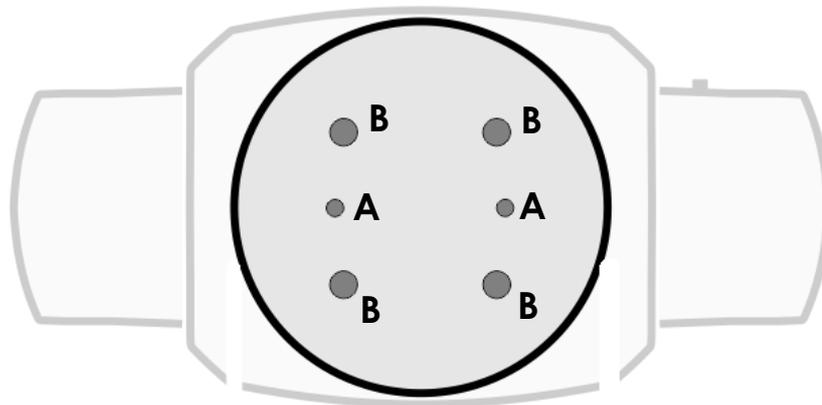

Figure 5 Mounting points in base
See Figure 5. The base of the fixture has two threaded holes **A** that accept M10 bolts or screws, and four mounting points **B** that accept standard camlock quarter-turn fasteners. The camlock center-to-center distance is 90 mm (3.54 in.).
2. See Figure 5. Fasten the bolts through the half-coupler clamps and into holes **A** in the base of the fixture so that the clamps are held securely.